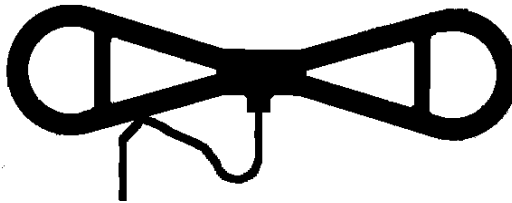

Figure 1, Antenna Tie Wrap Modification
31. Referring to Figure 1, measure back 4” from the connector that attaches to the Figure 8 Loop. Place that point on the cable next to the Figure 8 Loop and place a Cable Tie, (5878-0016) on it. This will stop the cable from being pulled out of the Antenna Cable Connector.